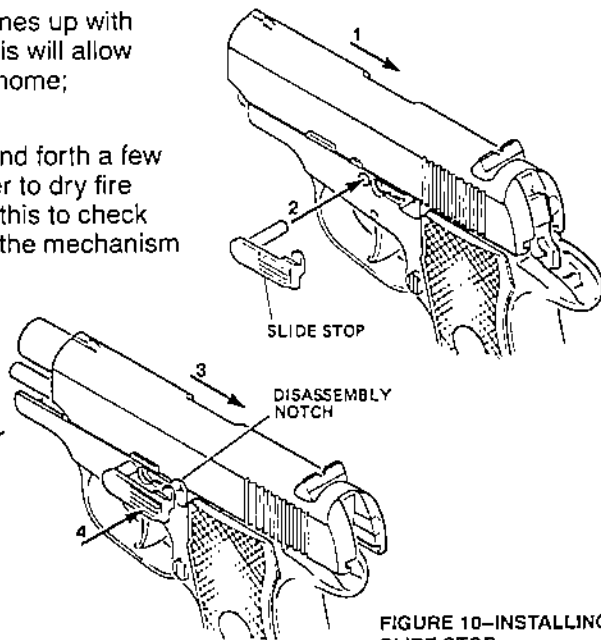

FIGURE 10—INSTALLING SLIDE STOP
until the disassembly notch lines up with rear part of the slide stop. This will allow slide stop to be pushed fully home; see Figure 10.
**To assemble the magazine**, place spring correctly oriented, i.e., with loop uppermost pointing forward, into the magazine body. Compress spring and insert thin rod as for dismantling. Place follower in magazine as illustrated (See Figure 10), take up spring tension, remove thin rod and allow spring to reassert its influence on the follower.